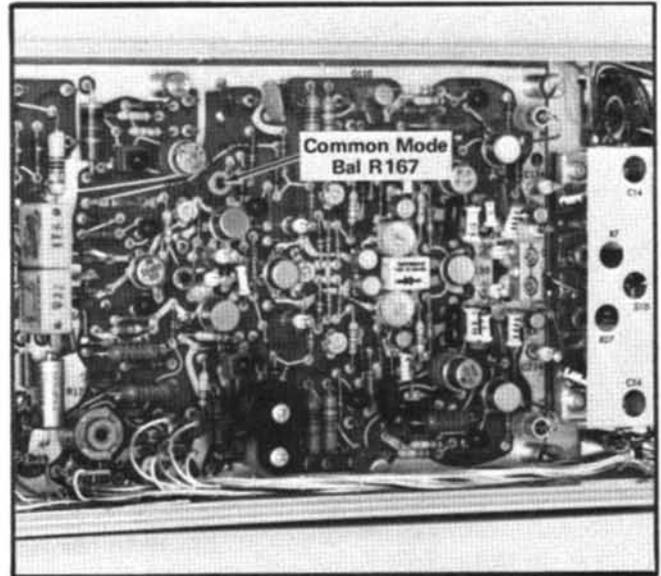

Fig. 5-6. Partial view of Input board showing adjustment location for step 11.
- e. ADJUST—If tolerance is exceeded, adjust the Common Mode Bal control R167 (see Fig. 5-6) for quickest return of trace (with minimum final trace drift) to within 0.5 mV from graticule center.